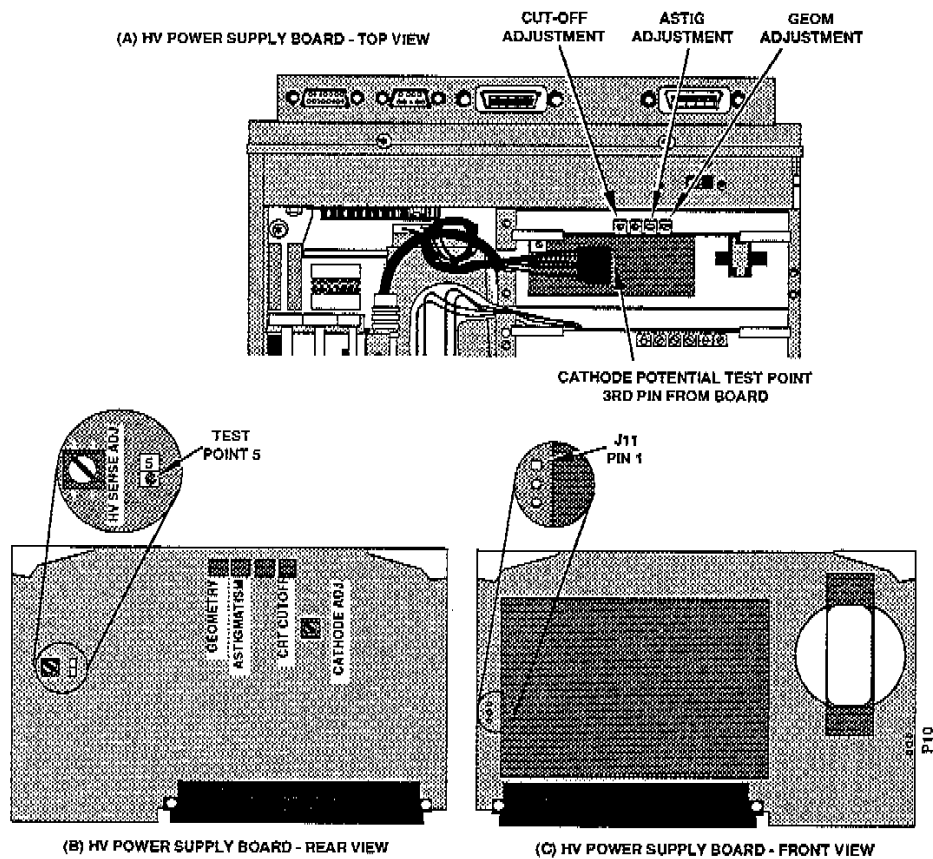

Figure 3-4. HV Power Supply adjustments.
5. Remove the plug from J11 and place a jumper between pins 1 and 2 of J11 (use a jumper from one of the unused extender boards in the Field Service Kit). See Figure 3-4.
1. Adjust the GEOMETRY on the high voltage module (see Figure 3-4) for least bowing of the horizontal and vertical graticule lines. Bowing is most prominent at the edges of the display. When properly adjusted, no curvature of the graticule lines should be apparent.